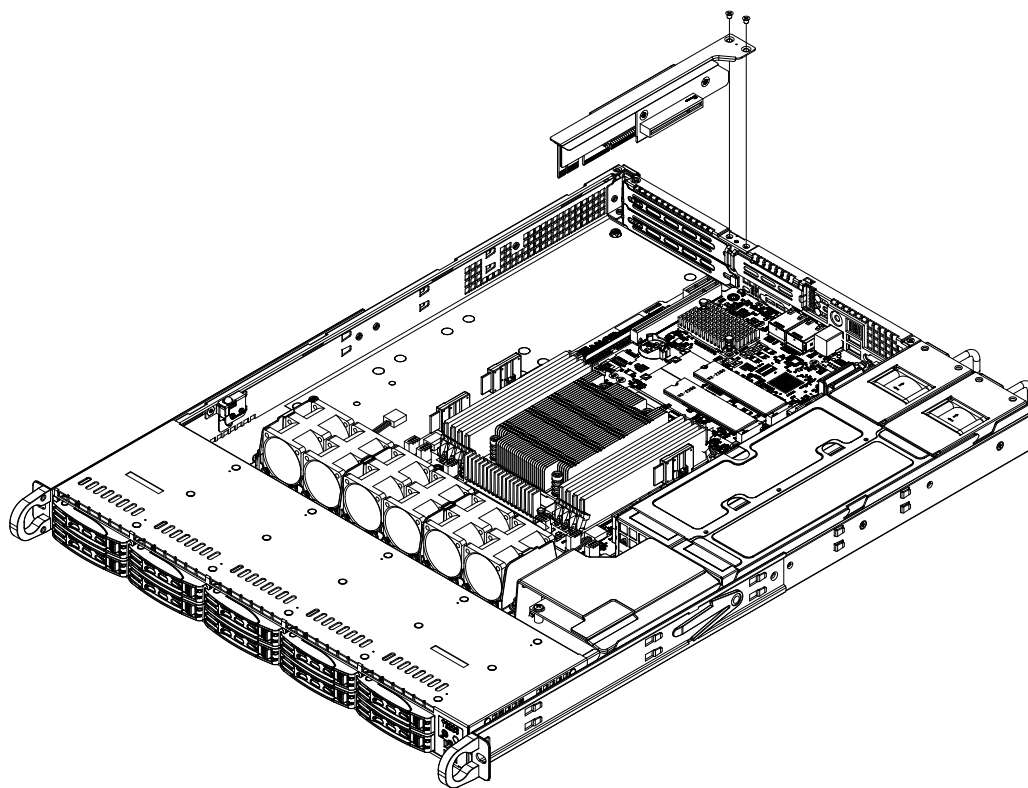

Figure 3-13. Removing the Riser Bracket
1. Remove the riser card bracket from the chassis by unscrewing the screws indicated in Figure 3-13.
3. Install the riser card on the bracket with the two screws provided, see Figure 3-13.